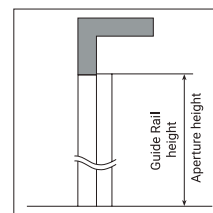

Figure 6
a. Where headroom of 300mm (205mm for the 55 range) or more is available guide rail length equals aperture height (see *Figure 6*).